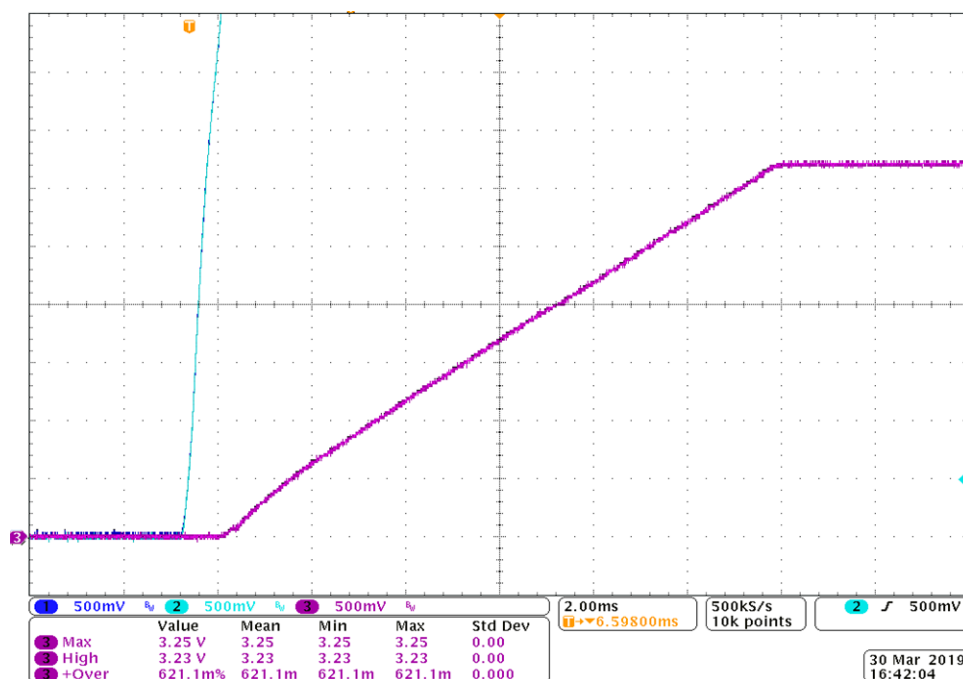

Figure 12. Soft Start With No Overshoot During Start-Up
- When using an LDO with an externally controlled soft-start function, such as the TPS7A90, TPS7A02, TPS7A05, TLV767 device, the proper soft-start value, according to the V_{IN} slew rate, is required to avoid an overshoot. Figure 12 displays the test results (Green: V_{IN} ; Red: V_{OUT}). The soft-start function makes V_{OUT} take 12 ms to get ready, so there is no overshoot during start-up.